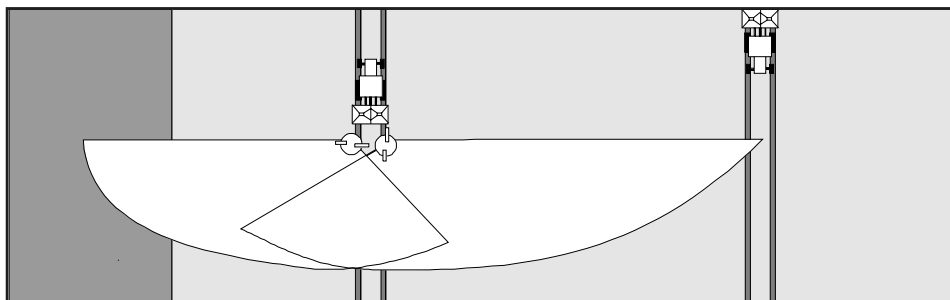

Fig. 7.7
7.1.2.2.2 Field side spreading beside own, evenly to be treated areas (Fig. 7.7)